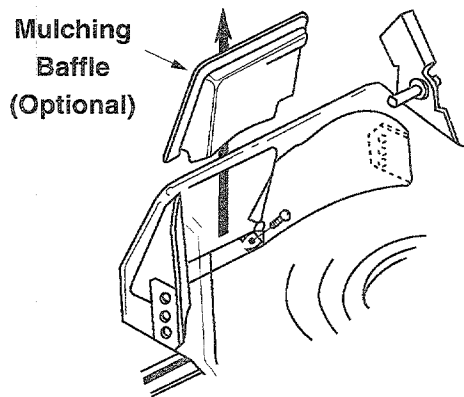

Figure 9
1. If your mower is equipped with a mulching baffle, it is in place on the mower. To remove the mulching baffle, lift the rear discharge door on the mower. Remove the mulching baffle. See Figure 9.